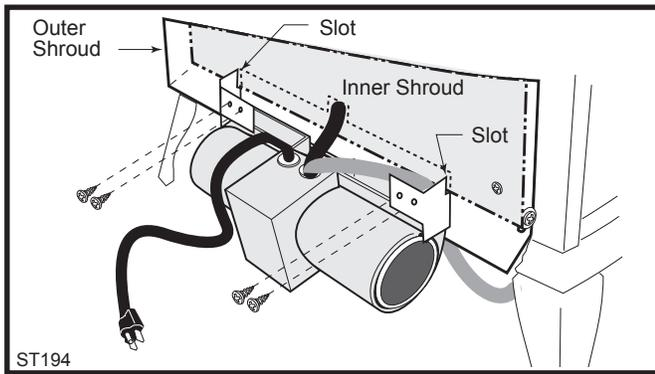

Fig. 10 Position the fan to engage the inner shroud with the fan bracket slots and secure with sheet metal screws.
5. Position the fan assembly so the ducts slide between the inner and outer shroud. The inner shroud should engage with the two slots in the ends of the bracket so the bracket and shroud are interlocked. (Fig. 10) Secure the bracket with the four sheet metal screws provided in the finish bag.